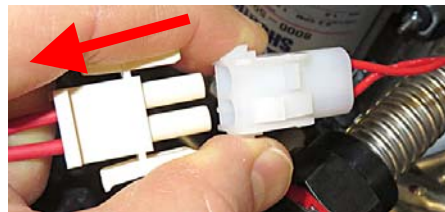

Figure 35
39. Unplug the 2-pin connector on the other end of the 12-pin connector from step 37 (see Figure 35).